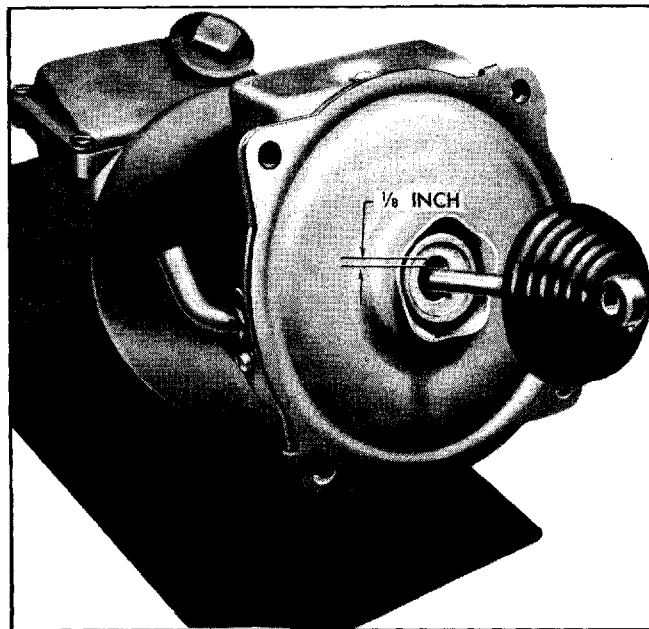

Fig. 5-34 Clearance Between Push Rod and Plunger
6. Pull rubber boot back from vacuum cylinder so that push rod can be observed where it enters vacuum cylinder. There should be approximately $\frac{1}{8}$ " clearance between push rod and bore of plunger at top or 12 o'clock position with brake pedal released (Fig. 5-34). If improper clearance is noted, loosen brake pedal pivot bracket and shift slightly to obtain clearance. **NOTE:** If clearance cannot be obtained, check for bent push rod or bent mounting plate.